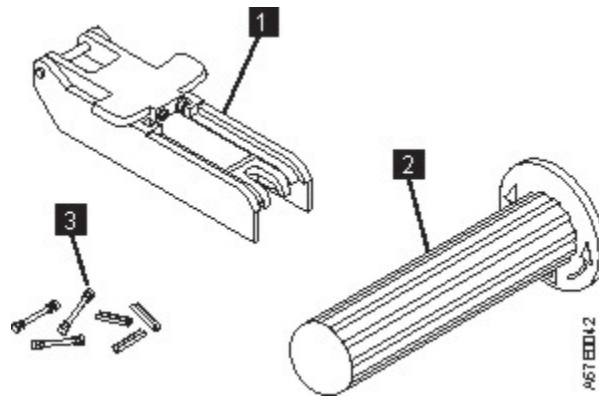

Figure 105. Leader pin reattachment kit
- **Leader pin attach tool** (See **1** in Figure 105 on page 226). A plastic brace that holds the cartridge door open.
- **Cartridge manual rewind tool** (See **2** in Figure 105 on page 226). A device that fits into the cartridge's hub and enables you to wind the tape into and out of the cartridge.
- **Pin supplies** (See **3** in Figure 105 on page 226). Leader pins and C-clips.